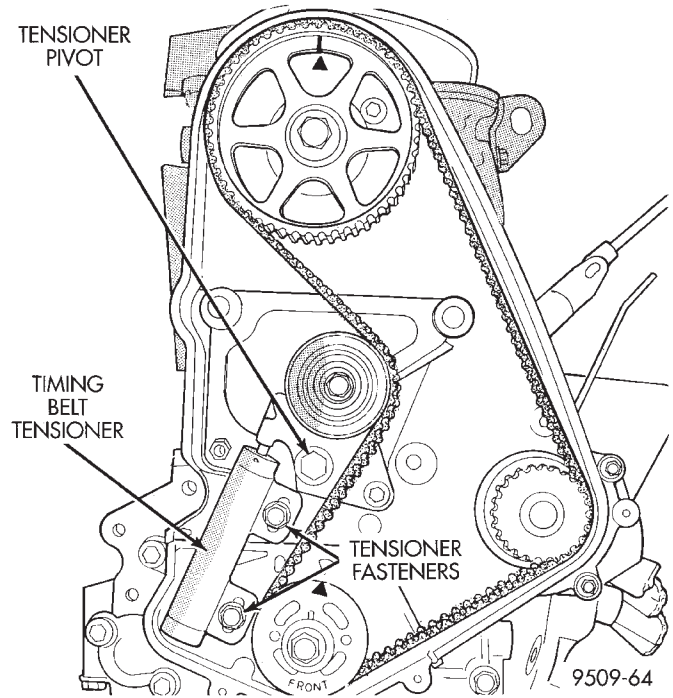

Fig. 65 Remove Timing Belt
- (10) Loosen timing belt tensioner fasteners (Fig. 65) and remove timing belt and tensioner.